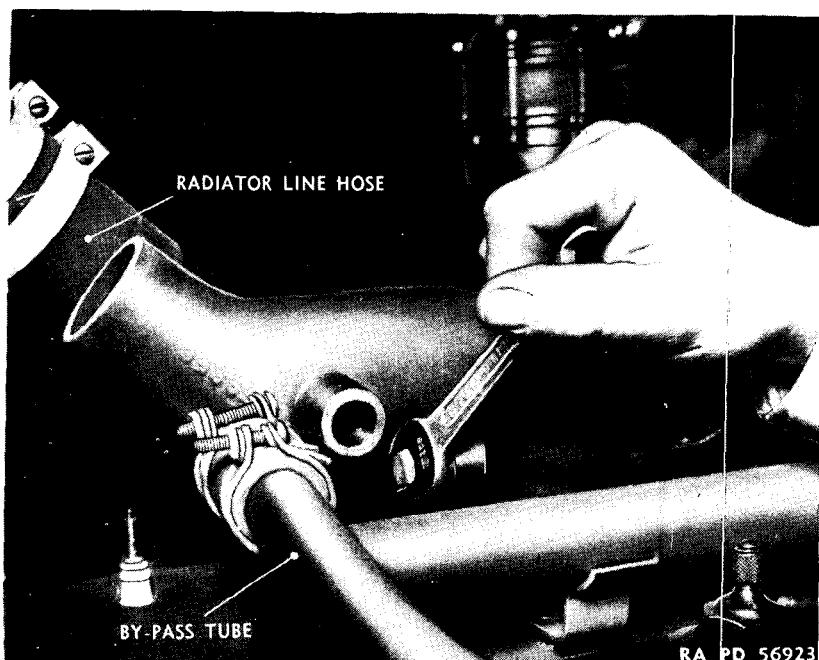
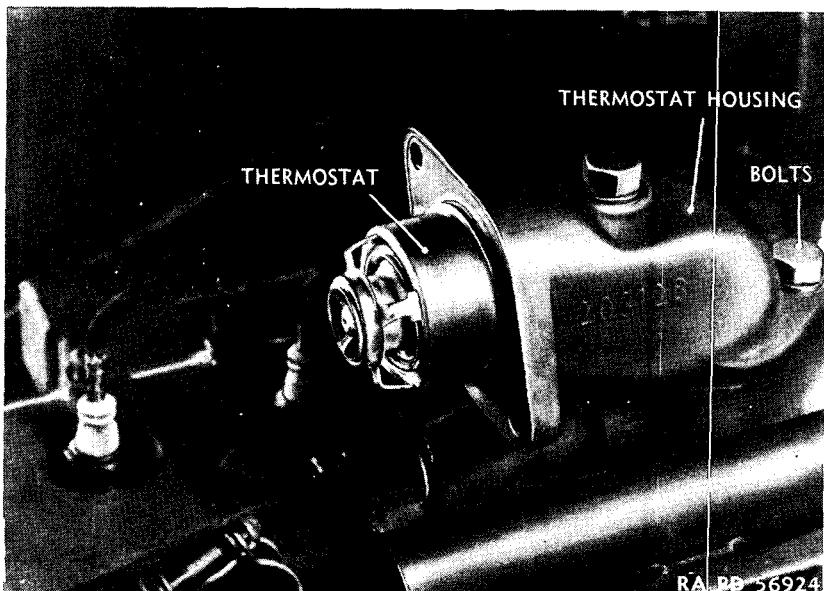

Figure 29—Taking Apart Thermostat Housing
Figure 30—Thermostat—Section of Housing Removed
(4) **SEPARATE THERMOSTAT HOUSING** (fig. 29). Take out the cap screws and lock washers through the flanges of the thermostat housing. The thermostat may now be removed from the free half of the housing (fig. 30).